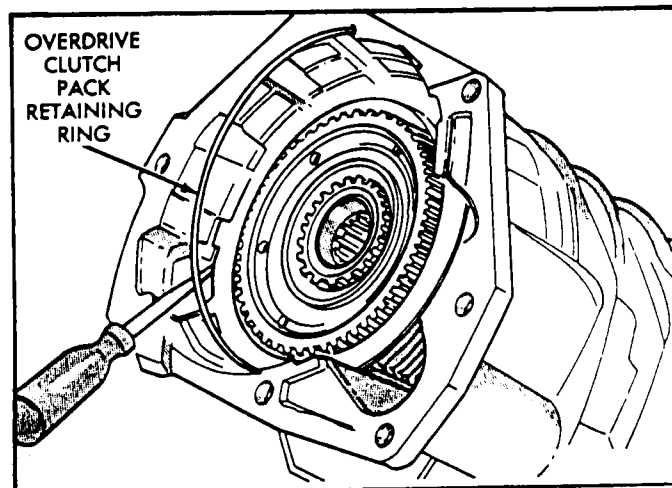

Figure 34
49. Install the ROUND (Wire-Type) snap ring on top of the pressure plate, as shown in Figure 34. This ring is only used to retain the overdrive clutches in place while the overdrive section assembly is being installed on the transmission.